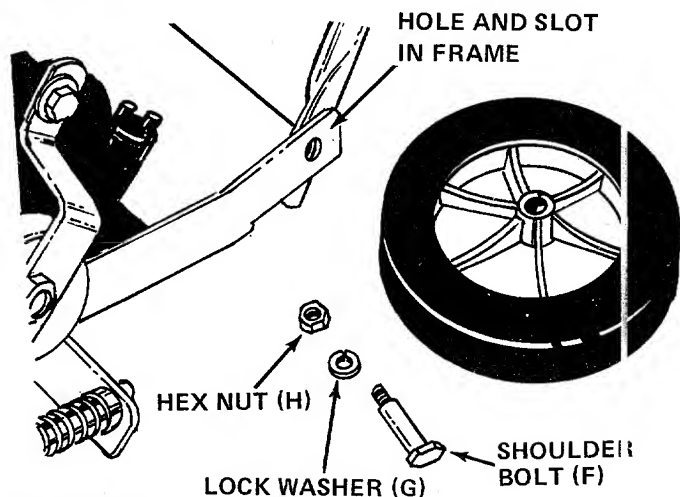

FIGURE 2
- L (4) Hex Nuts 1/4-20 Thread
- M (1) Hex Bolt 5/16-18 x 1.75" Long
- N (1) Compression Spring
- O (1) Flat Washer
- P (1) Hex Center Lock Nut 5/16-18 Thread
- Q (2) Hex Bolts 1/4-20 x 1.25" Long
- R (4) Hex Center Lock Nuts 1/4-20 Thread
- S (2) Hex Bolts 1/4-20 x 1.00" Long
- T (3) Grips
2. Line up holes in lower handle with holes in frame. Secure rear wheels (larger) and lower handle to frame with shoulder bolts (F), lock washers (G) and hex nuts (H). See figure 2.